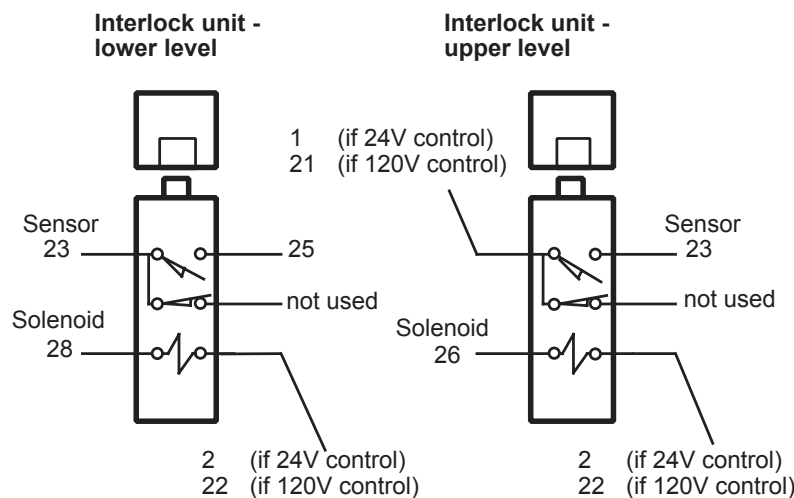
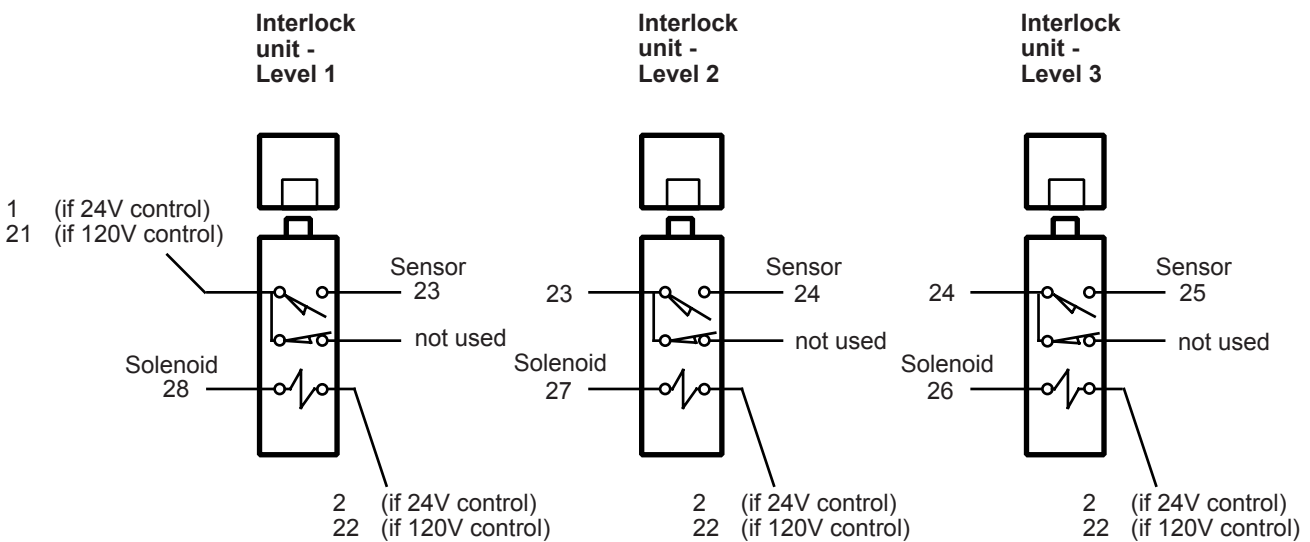

Fig. 2-7 – Pushbutton Station and Interlock Connections – Two-Level Unit
Fig. 2-8 – Pushbutton Station and Interlock Connections – Three-Level Unit
- Figure 2-7 shows the connections for a two-level lift. For a three-level lift, see Fig. 2-8. Run each control wire from the pushbutton station to the main control panel. Use 16 AWG wire for all control wiring (supplied by installer). Wire in the pushbutton stations according to the applicable codes. For the best possible protection against accidental damage to the wires, run the wires through metal conduit.
8. To connect the interlock units, match the number on each wire with the terminal on the terminal strip. For a two-level unit, see Fig. 2-7. If you have a three-level unit, see Fig. 2-8.